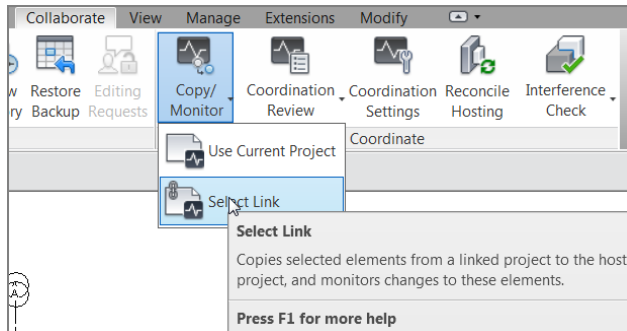

FIGURE 20.4: The Copy/Monitor button on the Coordinate panel of the Collaborate tab
2. On the Coordinate panel of the Collaborate tab, select Copy/Monitor > Select Link, as shown in Figure 20.4.